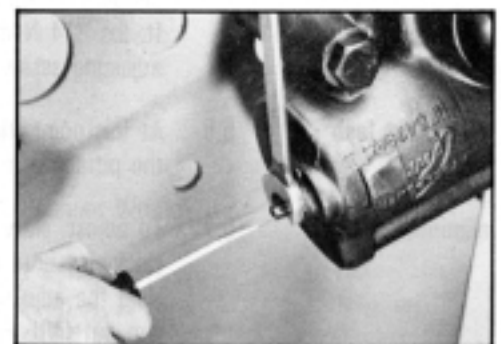

Figure 40
- 4.4 Once you have the steering wheel in full lock (axle against axle stop) in the correct direction, loosen the poppet adjusting screw nut (54) or (54A) and the poppet adjusting screw (53) or (53B), until the pressure gage reads maximum pump relief pressure. SEE FIGURE 40. 11/16 inch box end and slot screw driver or 3/4 inch box end and 5/16 inch hex socket required.